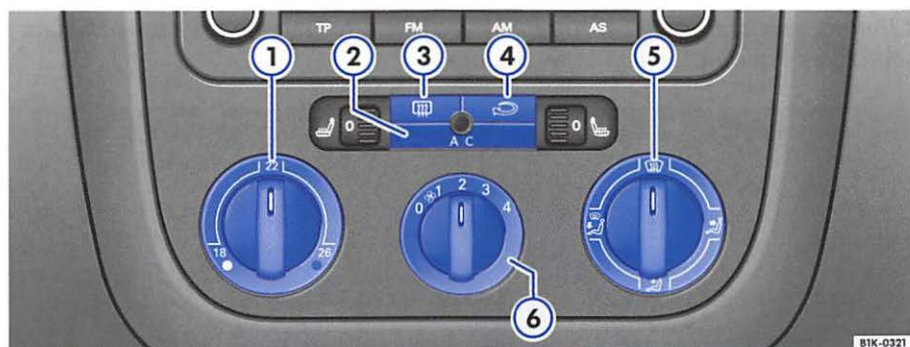

Fig. 73 In the center console: Climatic controls
– Using the controls ⇒ fig. 73 ①, ⑤ and ⑥ you can set the temperature, air distribution and the fan speed.
– To switch a function on or off, press the appropriate button ② to ④. When a function is switched on a light in the button comes on.
- ① Temperature ⇒ page 76
- ② **AC** button – switch on / off air conditioning. When the indicator light in the button comes on, this means the air conditioning is switched on. When the indicator light in the button goes out, the air conditioning switches off to save fuel. At low outside temperatures and with the air conditioning switched off, heating performance will be less after the engine is started.
- ③ Button rear window defogger with engine running – The rear window defogger